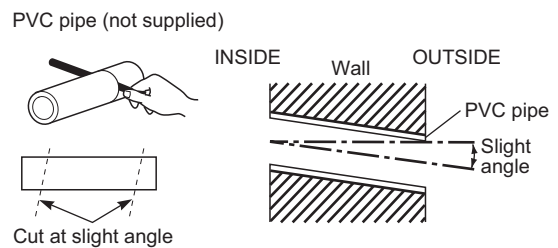

Fig. 1-46
- (9) Measure the thickness of the wall from the inside to the outside and cut PVC pipe at a slight angle to fit. Insert the PVC pipe in the wall. (Fig. 1-46)